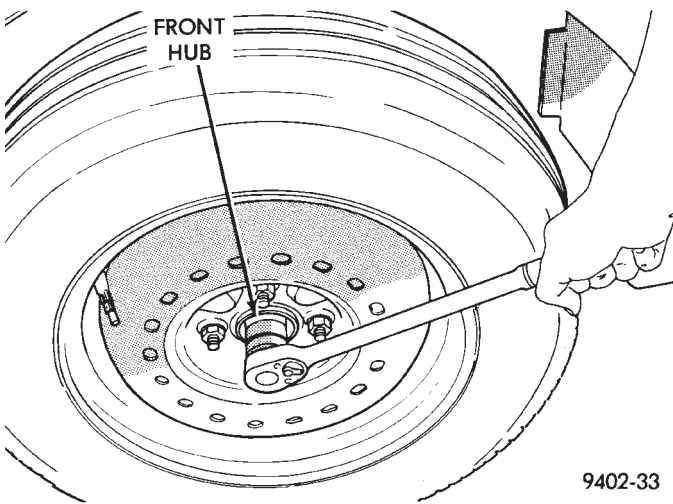

Fig. 40 Loosening Front Hub Nut
(2) Loosen hub nut while vehicle is on the floor with the brakes applied (Fig. 40). **The hub and driveshaft are splined together through the knuckle (bearing) and retained by the hub nut.**
(3) Raise vehicle on jack stands or centered on a frame contact type hoist. See Hoisting in the Lubrication and Maintenance section of this manual, for